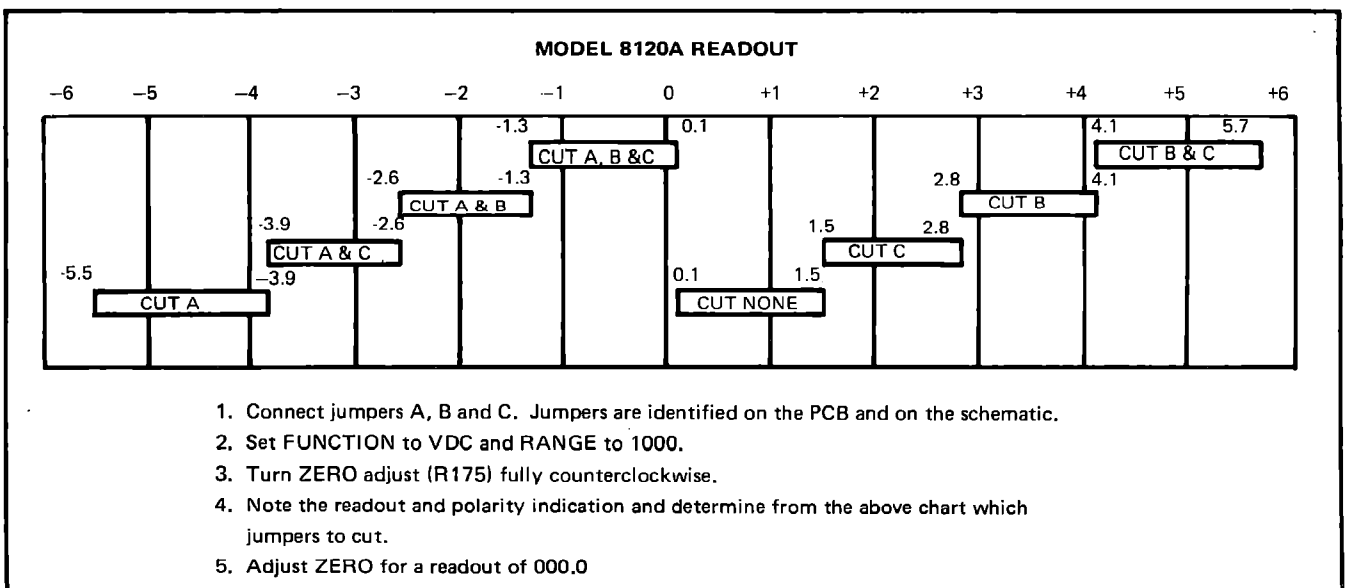

Figure 4-14. ZERO ADJUSTMENT PROCEDURE WHEN JUMPERS ASSOCIATED WITH Q77 MUST BE CHANGED.
- Adjust the ZERO control (R175) for 00.00 ± 1 digit readout. If unable to obtain zero by adjusting R175, refer to the detailed procedure given in Figure 4-14.